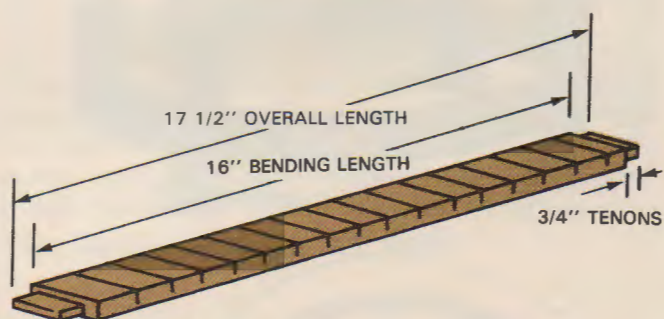

Fig. 34-7. This is one of the four kerfed apron pieces for the table in Fig. 34-5A.
1. Evenly space kerfs along the bent length. For our example of 16 in. bending length, the distance will be 1 in. from the end of the tenons and 1 in. between kerfs centers, Fig. 34-7. Mark kerf centers.